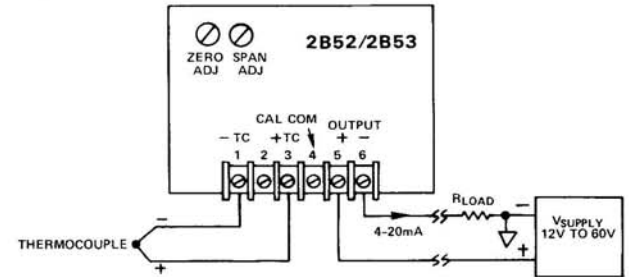
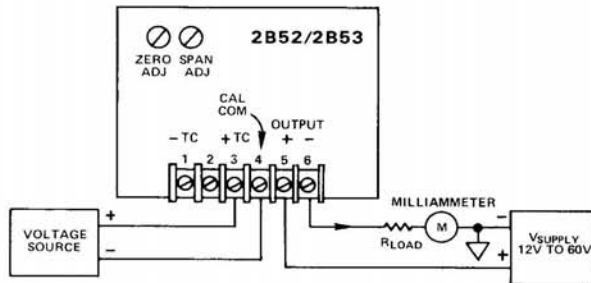

Figure 3. Model 2B52/2B53 Basic Application
Figure 5. Calibration/Millivolt Input Connections
The connections shown in Figure 3 are common for both the 2B52 and 2B53. Only terminals 1(-Thermocouple Input), 3(+Thermocouple Input), 5(+Output/+ V_S), and 6(-Output) are used for operation as a thermocouple transmitter. For millivolt transmission operation see Figure 5.
Field Calibration: Figure 5 shows the connection scheme for calibration of the 2B52 and 2B53. A precision voltage source is required.
1. Make connections as shown in Figure 5. Use a precision millivolt source.
be desired. The connection scheme shown in Figure 5 may be utilized for this purpose.
7. Connect calibration millivolt source as shown in Figure 5.